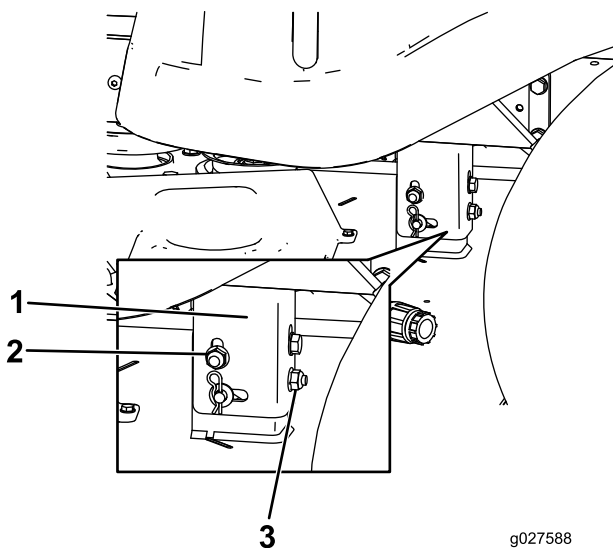

Figure 57
8. Raise or lower the left side of the mower deck by rotating the rear nut (Figure 57).
Note: Rotate the rear nut clockwise to raise the mower deck; rotate the rear nut counter-clockwise to lower the mower deck. (Figure 57).